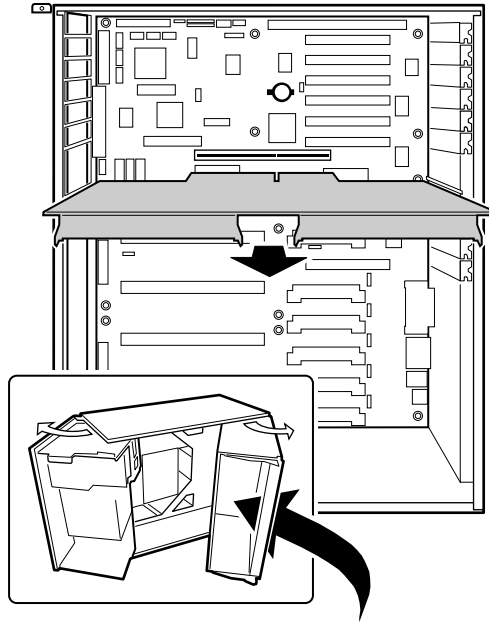

Figure 11: Removing the Memory Module
4. Remove the memory module from the system board by pulling it gently from the electronics bay (see Figure 11). It is not necessary to open the electronics bay to remove the memory module.